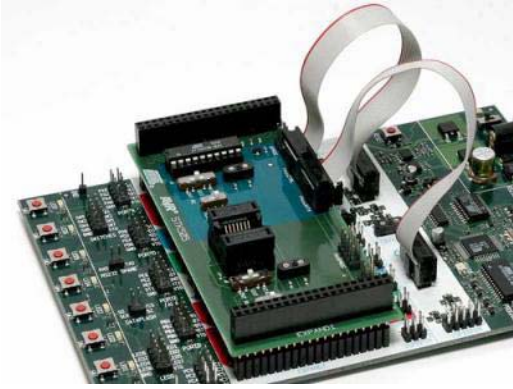

Figure 2-4: High voltage programming of the ATtiny26
3. Connect PROGCTRL on stk500 to PROGCTRL on STK505, as shown on figure 2-4.
4. Connect PROGDATA on stk500 to PROGDATA on STK505, as shown on figure 2-4.